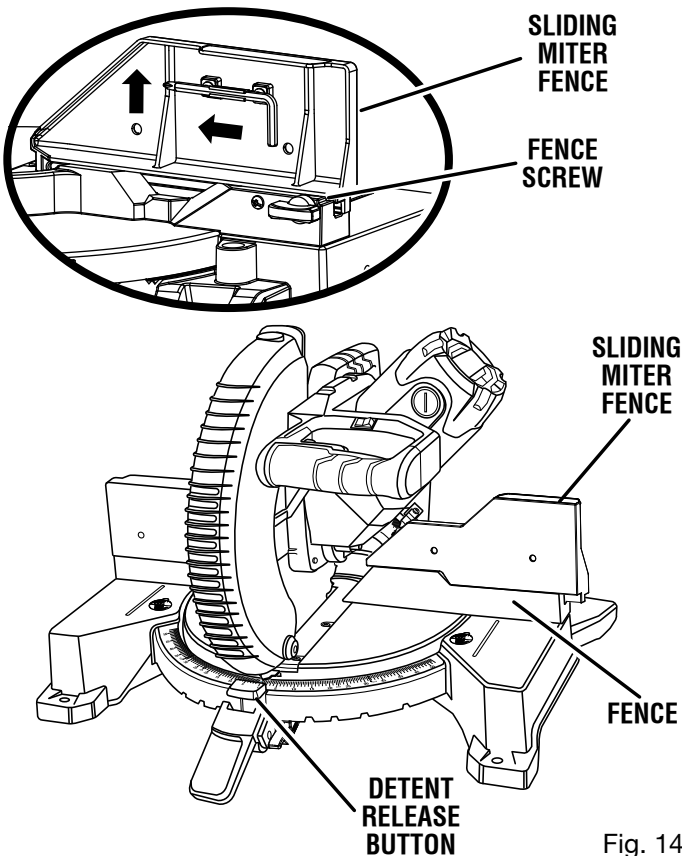

Fig. 14
See Figures 14 - 20
- Remove the sliding miter fences from the fence. See figure 14.